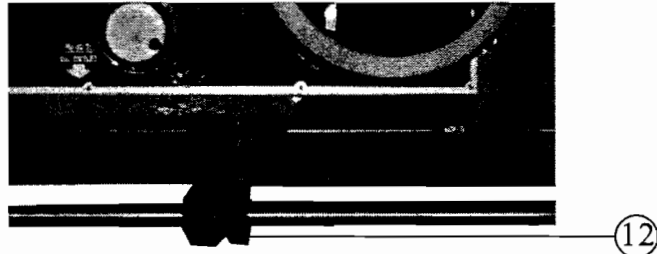

Fig. 4-10
The apron is equipped with an automatic stop device. To set this mechanism, loosen the setscrew on the top of the tripping dog ⑫ on Fig. 4-10 and move it to the desired location. With the tripping dog in place and the top tip facing out, please tighten the setscrew. When tripping dog comes in contact with the trip plunger, (⑳ of item 1-1 located at the bottom of the apron) the carriage will stop. Always test the mechanism before you start machining to avoid damage to the lathe and or work piece.